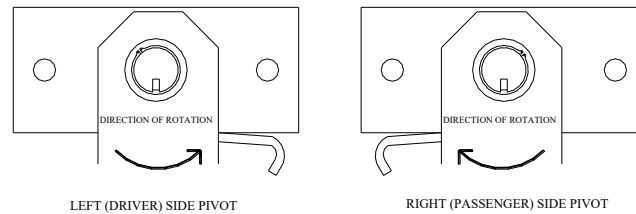

Figure 6
- 1) Refer to Fig. 6 below to identify driver and passenger arms.